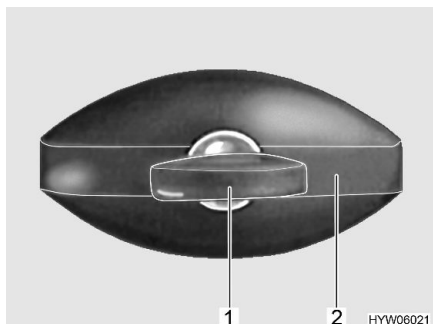

Fig. 19 Flap lock (elliptical-shaped, closed)
- Insert key into locking cylinder (Fig. 19,1) and turn a quarter turn in an anti-clockwise direction. The lock handle (Fig. 19,2) snaps out.